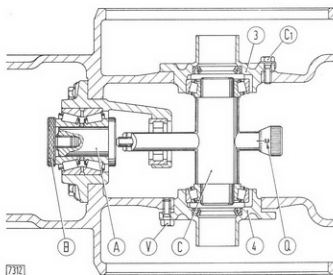
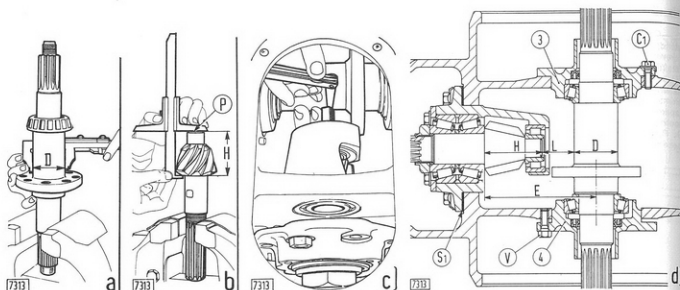

Fig. 130 - Determining Bevel Pinion Shims using Tool Part No. 290787 (A, B, C)
Fig. 131 - Adjusting Bevel Pinion Position
If tool Part No. **290787** (see Fig. 130) is available, proceed as follows:—
a. Measuring diameter (D) on crown wheel shaft - b. Measuring height (H) on pinion - c. Measuring distance (L) between pinion and crown wheel shaft, using slip gauge and feeler gauge - d. Sectional view - C₁, R.H. bearing housing retaining screws - E. Distance between crown wheel axis and bevel pinion (147 mm. - 5.78 in. nominal) - P. Correction (mm.) on pinion - V. L.H. bearing housing retaining screws - 3. R.H. bearing housing - 4. L.H. bearing housing.
- Fit measuring tool parts (A and B, Fig. 130) to the bevel pinion carrier assembly and fix the carrier to the case without shims.
- Place tool (C) horizontal, screw in the associated knurled knob until the stylus contacts dummy pinion face (A) and read dimension (Q). This indicates the distance between reference marks on gauge body and stylus. For a correct reading, note that one turn of the knob causes the stylus to be displaced 2 mm. (.08 in.) and that, starting from zero, the readings are preceded by sign "—" for the first half turn and by sign "+" for the following turn.
- Take note of the correction value (P, Fig. 131 b) on the pinion expressed in mm. and preceded by "+" or "—" if other than zero.
- Fit the shim pack (S₁) and read new dimension (Q) on the gauge. Shim pack thickness must be considered correct when (Q) is equal in value and sign to correction value (P) as read on the pinion. (A maximum .1 mm. tolerance is allowed). If higher or lower, correct shim pack thickness as necessary.
- If tool Part No. **290787** is not available, adjust bevel pinion position as follows (see Fig. 131):—
- Refit crown wheel shaft into the case, lock R.H. bearing housing (3) tightening three screws (C₁) to a torque of 6 kgm (43.3 lb. ft.), and L.H. bearing housing (4) by means of three screws (V) lubricated and staggered at 120° from each other. Tighten screws (V) alternately up to a torque of .6 kgm (4.33 lb. ft.) and, at the same time, rotate the shaft by hand to bed in the roller bearings.